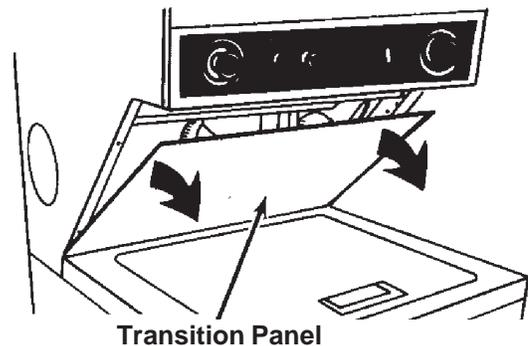

Fig. 5-6
2. Tilt the transition panel down and pull it straight out. (Fig. 5-6)